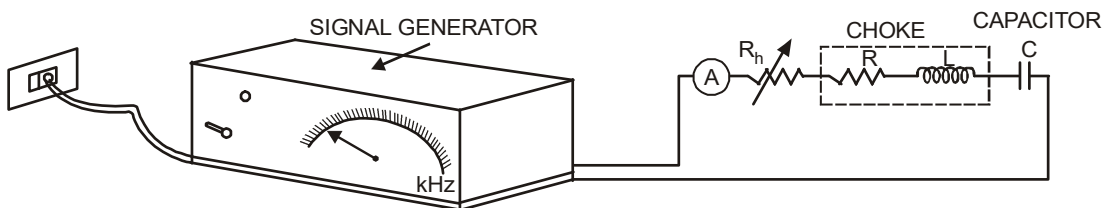

Fig. P2.2: Circuit to determine resonance in R-L-C series circuit
1. Make the connections as per the circuit diagram shown in fig. P2.2.